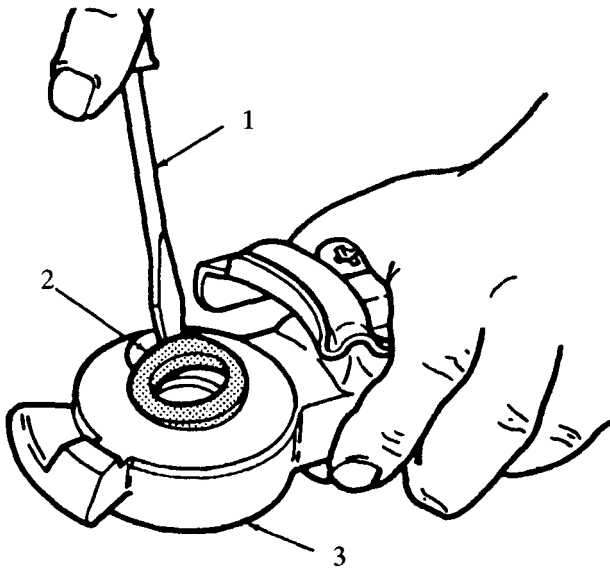

Figure 117 Packing Ring Properly Installed
4. Work the remaining part of the packing ring into place with a blunt nosed (not sharp) screwdriver or similar tool (Figure 117). Exposed face of packing ring will be flat and free of any bulges when properly installed.